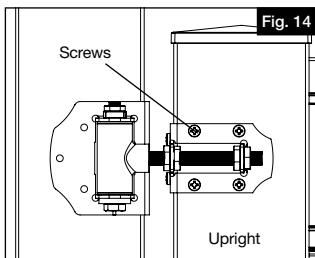

Fig. 14
- Mark and pre-drill $\frac{3}{32}$ " pilot holes on top and bottom upright. Secure using six $1\frac{1}{2}$ " screws (provided with the hinge) to front and side of the upright (Fig. 14). Repeat for the bottom hinge.